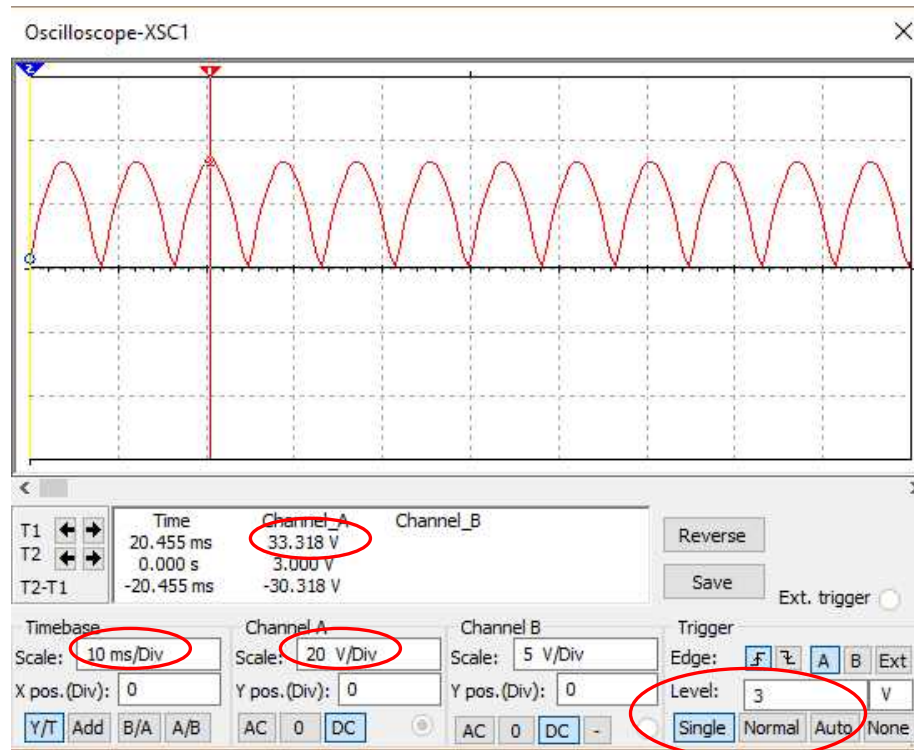

Figure 4-41.
The oscilloscope details are provided in Fig. 4-41. Our calculations gave a V_{dcm} of 34.2 V and the oscilloscope provided 33.3 V, which is about 2.6% low. V_{DC} was computed to be 21.8 V and Multisim yielded an answer of 20.7 V (about 5% low). The DC load current was calculated to be 436 mA while Multisim gave 415 mA, which is about 4.8% low. The calculations and the simulation results are reasonably close.
Note the circled settings in Fig. 4-41. The time base is adjusted to 10 ms per division to display the desired number of cycles. The vertical sensitivity is set to 20 V per division, so we can see the entire waveform. The default trigger mode is Auto. While the simulation is running the screen will appear to flicker. We fix that by adjusting the trigger to single sweep with a trigger level of three (3) volts. The controls of a physical oscilloscope will behave in a manner that is quite similar.³⁶